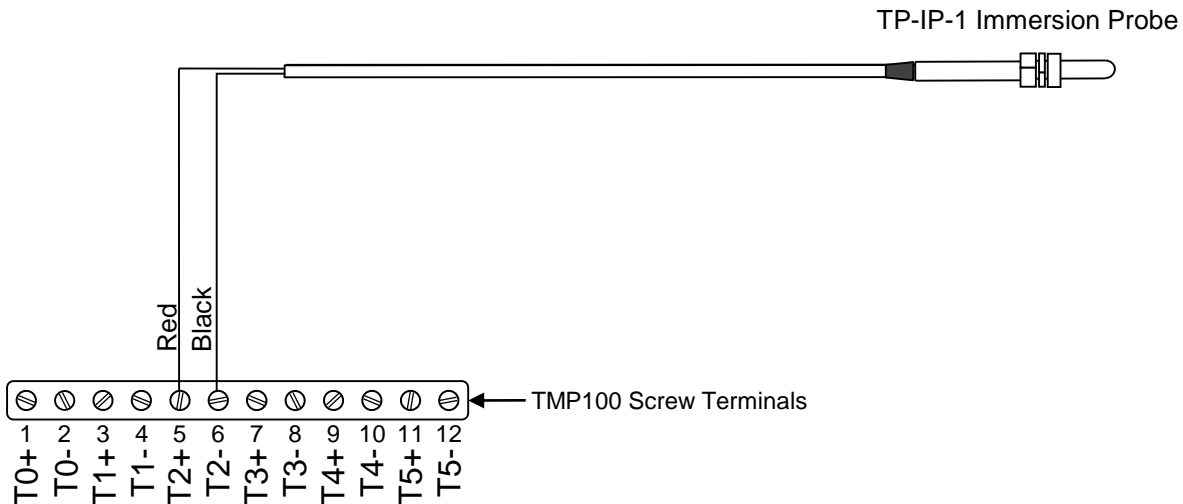

Figure 1 – Wiring Diagram
Please follow these instructions to connect the TP-IP-1 immersion temperature probe to the NMEA 2000[®] network via a Maretron TMP100 Temperature Module. The wiring diagram appears in Figure 1 below. The diagram shows a connection to channel #2, but connections to other channels are similar. Please note that the TP-IP-1 may be connected only to channels #2, #3, #4, and #5. It may not be connected to channels #0 and #1.
4. The TP-IP-1 cable contains one red and one black wire. Connect the black wire to the appropriate Tx-terminal on the TMP100 as shown in Figure 1 below.
5. Connect the red wire to the appropriate Tx+ terminal on the TMP100 as shown in Figure 1 below.